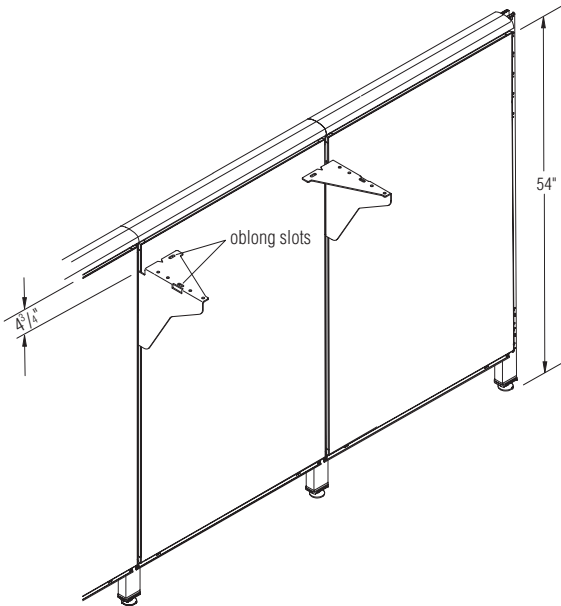

Figure 1
1. Position brackets on a 54" high WireWorks panel with the top tooth (antidislodgement) engaged in the sixth slot from the top of the uppermost tile so there is a 4 $\frac{3}{4}$ " space between the top of the tile and the top of the bracket. This will position the bottom of the balance cabinet at 20" above a 29" high worksurface (Figure 1).